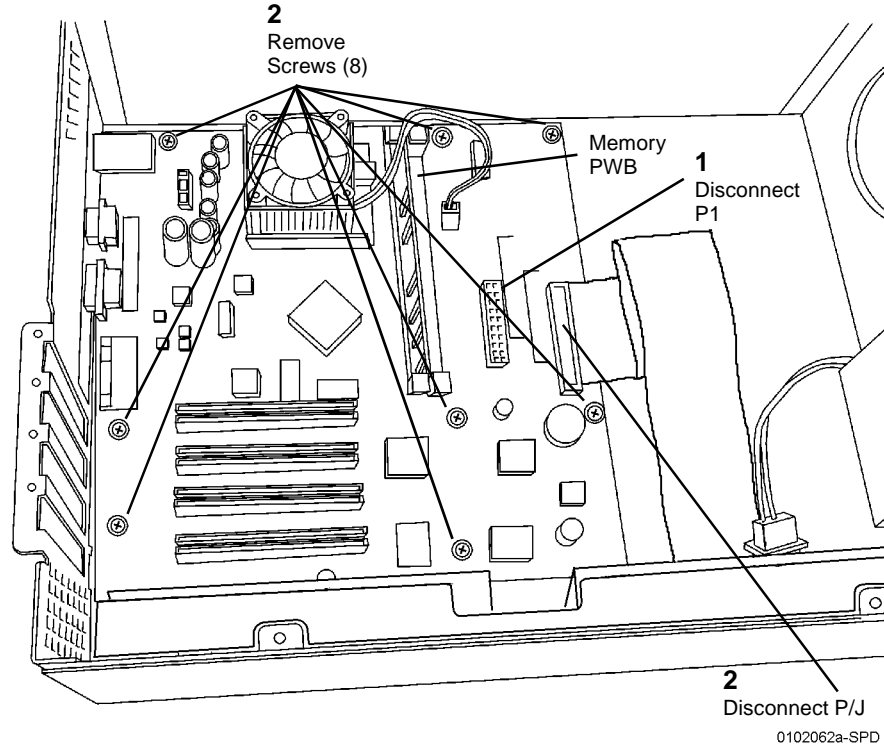

Figure 1 Removing Network Controller PWB
5. Remove Network Controller PWB (Figure 1).